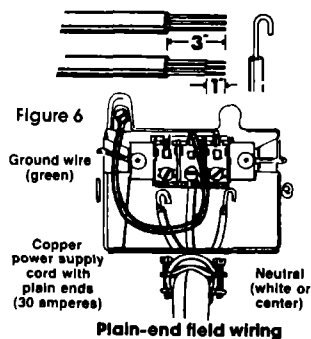
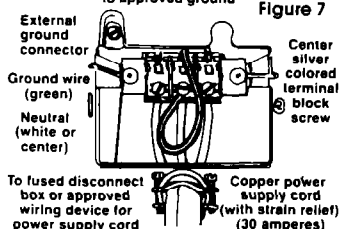
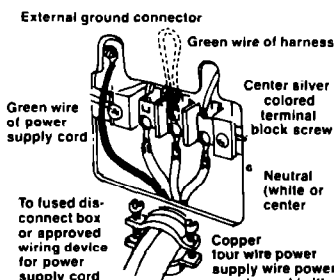

Figure 6
Figure 7
Figure 9
- IF YOUR POWER SUPPLY CORD OR DIRECT WIRING HAS PLAIN WIRE ENDS, SEE FIGURE 6 AND FOLLOW THESE STEPS:
3. Connect the neutral wire of the power supply cord to the center silver colored terminal of the terminal block and connect the other wires to the outer terminals. See Figure 7. For connecting plain-end field wire see Figure 6.
4. Connect the neutral wire (white) of the power supply cord to the center silver colored terminal of the terminal block and connect the other wires to the outer terminals. See Figure 9. For connecting plain-end field wire, see Figure 6.